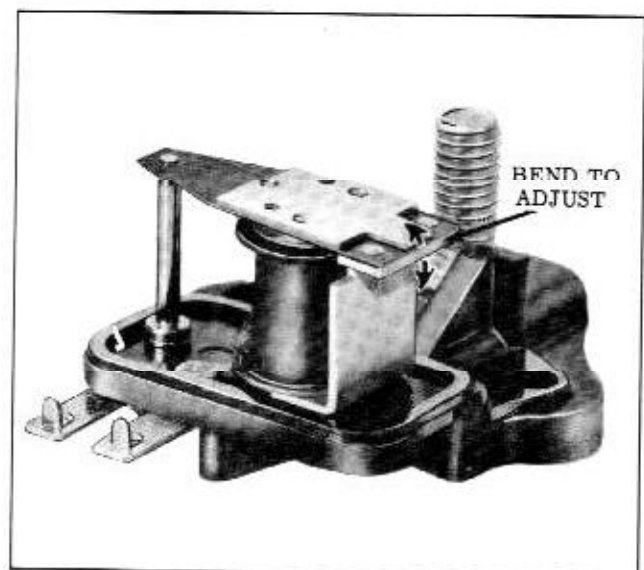

Fig. 13-71 Adjusting Horn Relay Closing Voltage
4. Slowly decrease the resistance until horn relay points close. Closing voltage should be 1.50 to 9.5 volts. If voltage is outside this range, adjust to 6.5 volts by bending armature spring post down to increase the voltage or up to decrease the voltage. (Fig. 13-71)